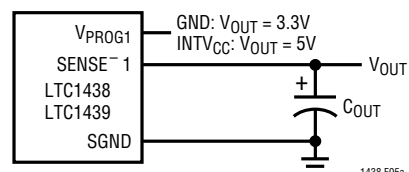

Figure 5a. LTC1438/LTC1439 Fixed Output Applications
The top of an internal resistive divider is connected to $SENSE^-$ 1 pin in Controller 1. For fixed output voltage applications the $SENSE^-$ 1 pin is connected to the output voltage as shown in Figure 5a. When using an external resistive divider for Controller 2, the V_{PROG2} pin is left open (DC) and the $V_{OSENSE2}$ pin is connected to the feedback